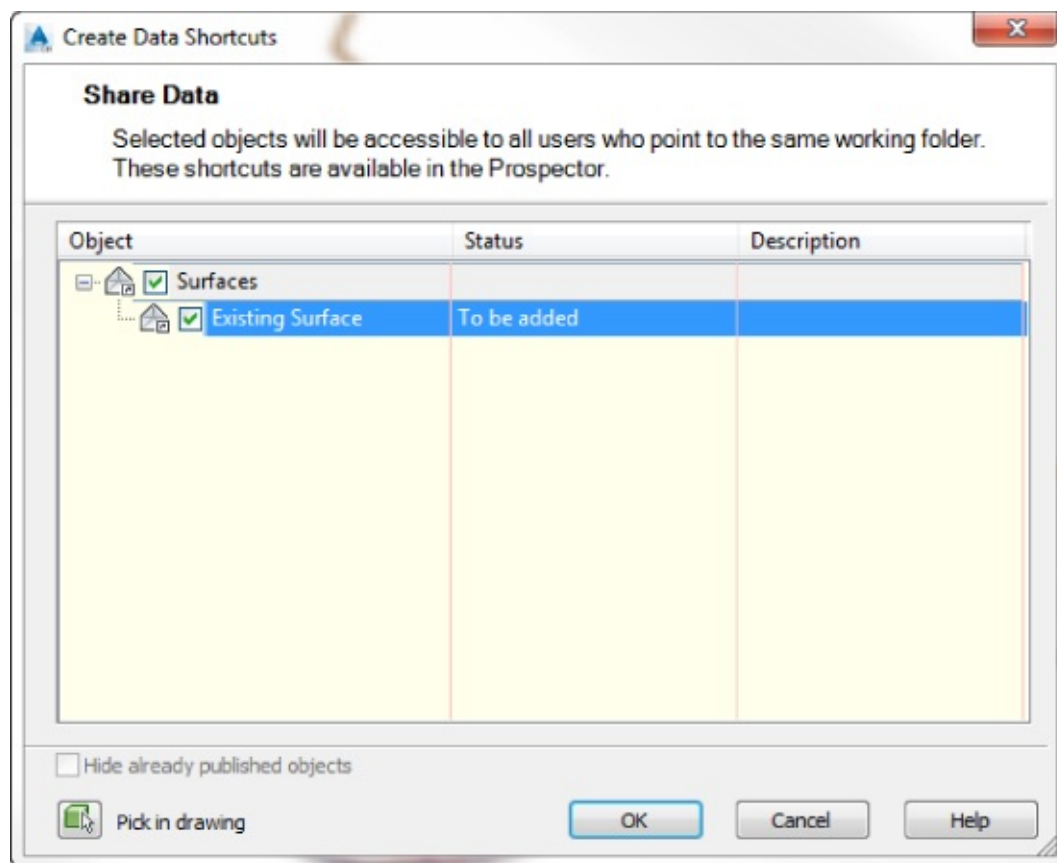

Figure 16.7 Adding surface data to data shortcuts
5. In the Create Data Shortcuts dialog, place a check mark next to Existing Surface, as shown in Figure 16.7, and click OK.